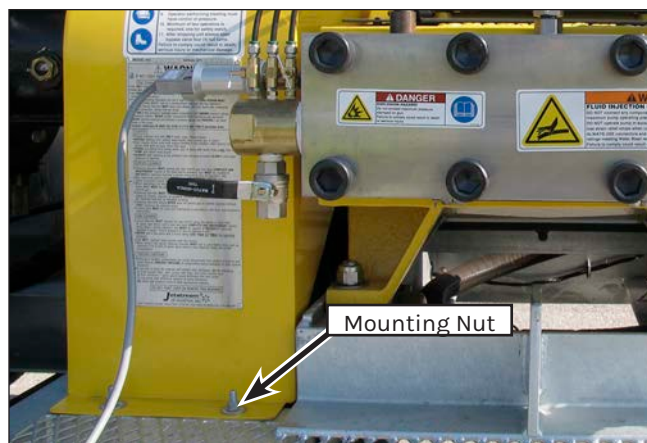

Figure 143: Belt Guard Hardware.
3. Remove the five mounting nuts (Figure 143) that secure the belt guard to the unit and lift the guard from the unit.
6. Install the five nuts and washers that secure the guard to the unit (Figure 143).